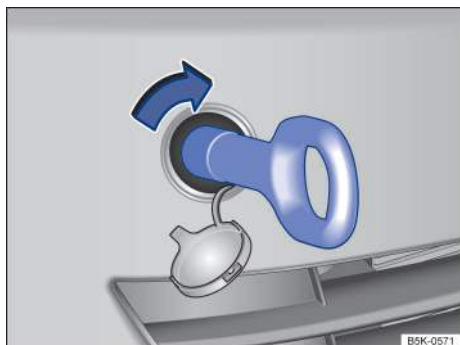

Fig. 165 In the right front bumper: Installing the towing eye.
There is a threaded hole for the towing eye in the right front bumper behind a cover → fig. 165.
- Screw the towing eye **clockwise** into the threaded hole as far as it will go (arrow) → fig. 165, → ⓘ. Use the lug wrench to turn and tighten the towing eye.